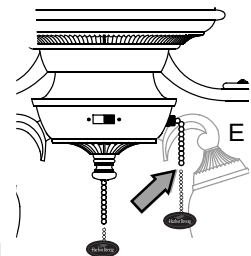

Fig. 1
1. The fan pull chain, labeled SPEED on the switch housing (E), has four positions to control fan speed. One pull is HIGH, two pulls is MEDIUM, three is LOW and four turns the fan OFF. [Fig. 1]